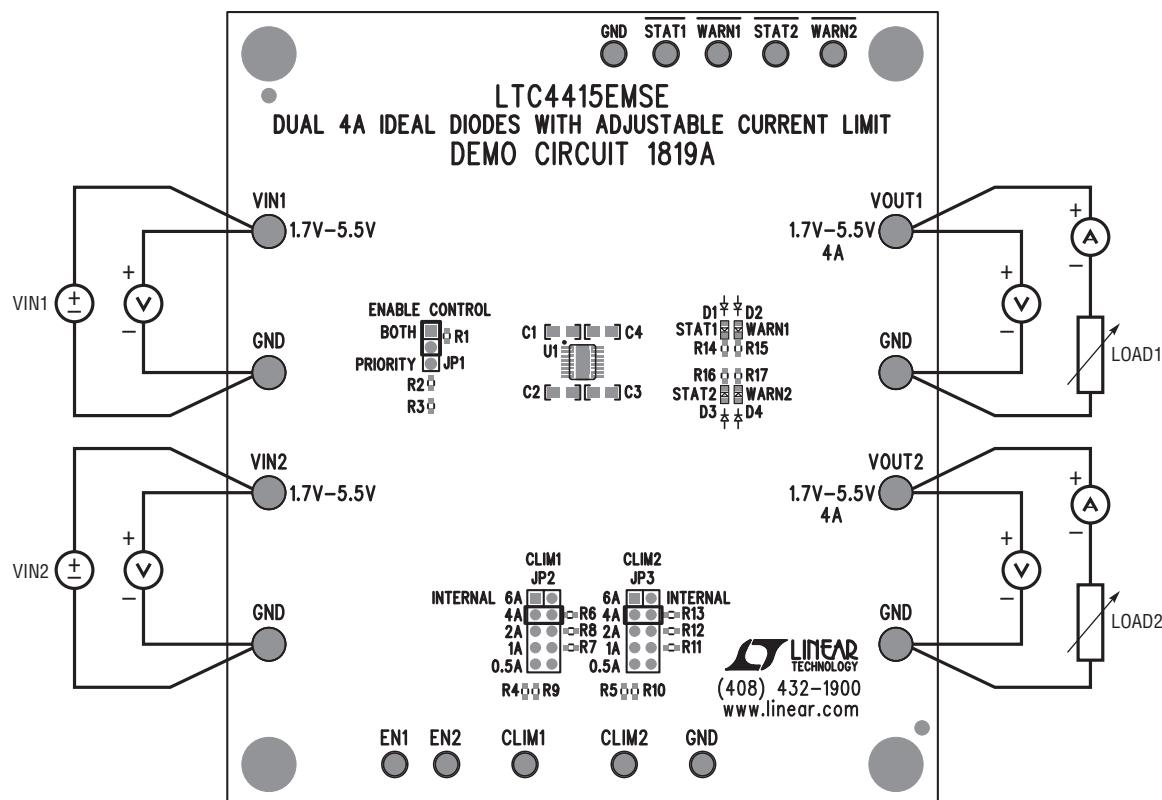

Figure 1. Proper Measurement Equipment Setup
Demonstration circuit 1819A is easy to set up to evaluate the performance of the LTC4415. Refer to Figure 1 for proper measurement equipment setup and follow the procedure below.
2. With all power off, connect input 1 and 2 (VIN1 and VIN2) power supplies capable of at least 4A each, the loads (VOUT1 and VOUT2), and meters as shown in Figure 1.